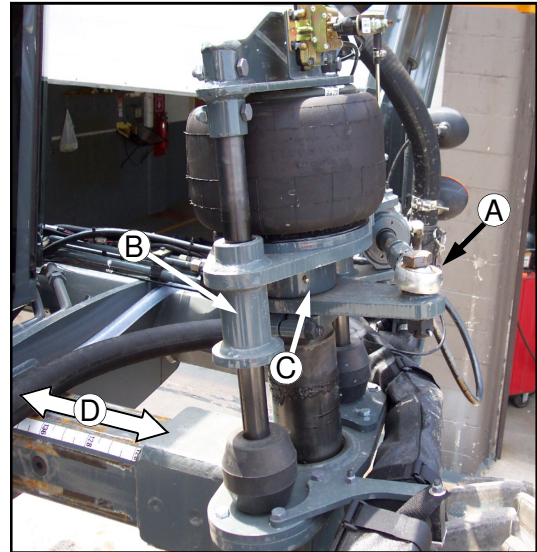

FIG. 93-1
**LEGS AND STEERING**– The front legs have a grease zerk in the tie rod ball (figure 93-1, item A) that needs greased every 50 hours or weekly.
Both the front and rear legs have two grease zerks, one in each of the tower bearings (figure 93-1, item B) that must be greased every 50 hours or as necessary. There is a zerk in the collar (figure 93-1, item C) that also needs greased every 50 hours or as necessary.
The slide path of the tread adjust (figure 93-1, item D) should be greased every 50 hours depending on the amount of usage.